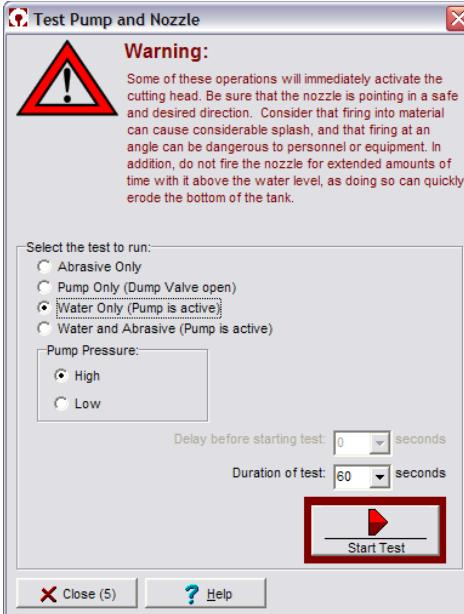

Figure 6-40: Pump and Nozzle Test Options
2. Purge the **high-pressure plumbing** to flush out any particles or contamination using the **nozzle test** with the **Water** only, **Low-pressure** options (see Figure 6-40 for test menu). To correctly flush your plumbing system, refer to the OMAX document, "Pulse/Surge Flushing of the UHP System", P/N 400571B. This document can be downloaded from the OMAX web site in the Customer Service/Field Technician section at www.omax.com.
2. First, test **nozzle** operation with **Water** only at **Low** pressure and then follow by testing with **Water and Abrasive** at **High** pressure. Refer to Figure 6-40 for an illustration of the pump and nozzle test screen.